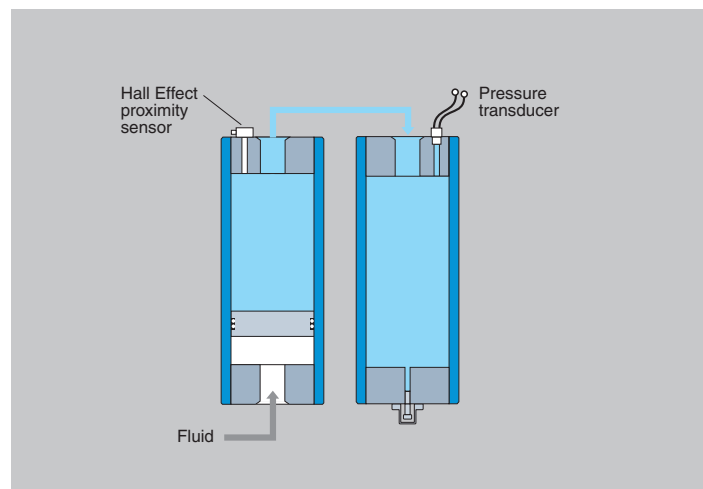

Fig. 14c Hall Effect sensor registers proximity of piston to end cap
- In applications where an accumulator is coupled to a gas bottle, a Hall Effect proximity sensor can be installed in the accumulator gas end cap (Fig. 14c) to detect when the piston comes within .050 inch of the cap. This system would provide a warning when precharge pressure has dropped and remedial action should be taken.